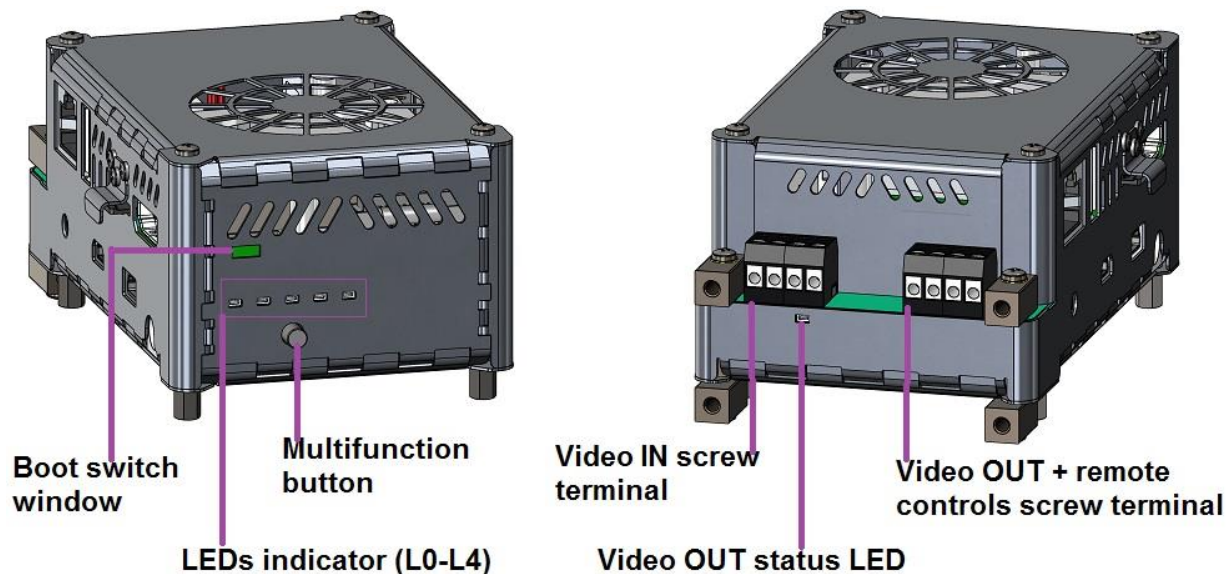

Figure 9: Controls and connections Recording box (3)
In this case connect the HDMI output to the micro HDMI input with the provided cable bridge (see Figure 9: Controls and connections Recording box (3)).
Connect the HDMI output to the micro HDMI input with the provided cable bridge, connect the USB 2.0 port (1) to the mini USB 2.0 port input with the provided cable bridge (see Figure 9: Controls and connections Recording box (3))
Connect the USB 2.0 port (1) to the mini USB 2.0 port input with the provided cable bridge (see Figure 9: Controls and connections Recording box (3)).
The multifunction button (see Figure 9: Controls and connections Recording box (3)) has the following functions: